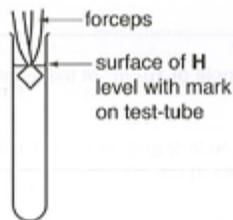

Fig. 1.1
- Hold the square just below the surface of **H** so that the top of the square is level with the surface of **H** as shown in Fig. 1.1.